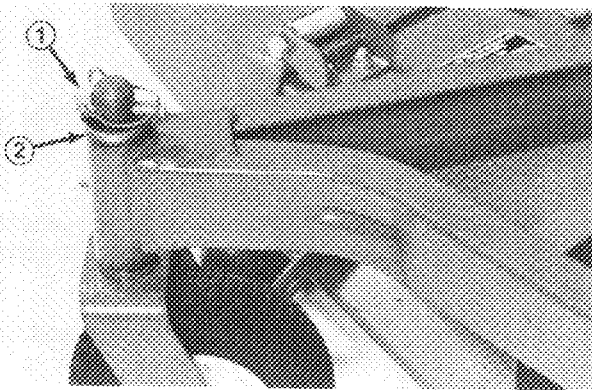

Figure 19
4. Insert pin punch into top or bottom of mounting tube and drive bushing out of tube (Fig. 19). Also drive other bushing out of tube. Clean inside of tubes to remove dirt.